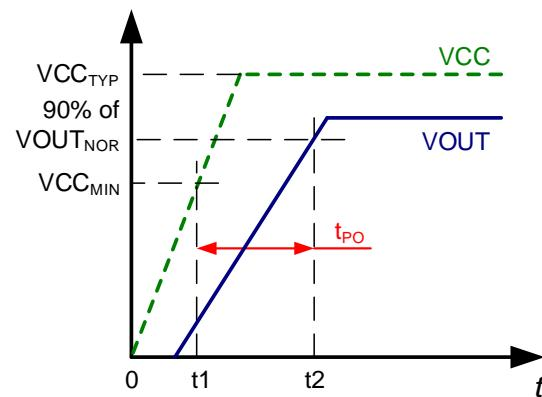

Figure 5: Power On Time (t_{PO})
2. t2: V_{OUT} settles within $\pm 10\%$ of its steady state value under an applied primary current (see Figure 5).